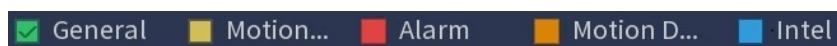

Figure 5-18
1) Select the check box of event type. See Figure 5-18.